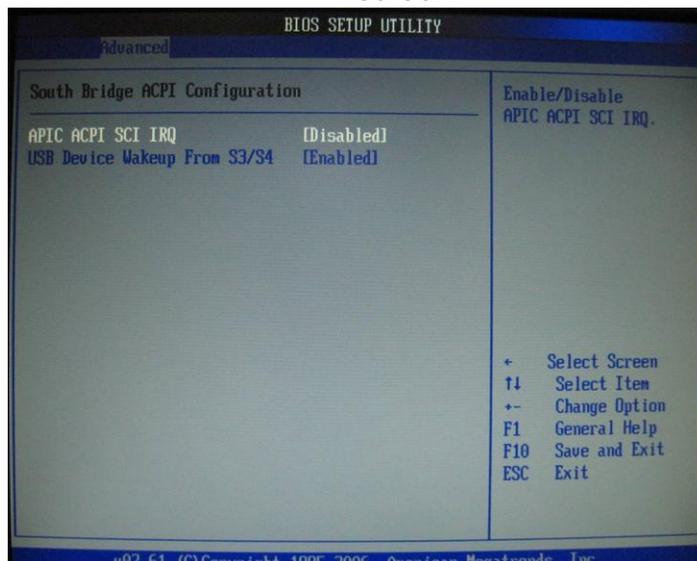

Figure 8-25 South Bridge ACPI Configuration Page
15. Scroll down to **ACPI AFIC Support** and press **Enter**. On the **South Bridge ACPI Configuration** Page, no changes are necessary. (Figure 8-25). Then press **Escape** to return to **Advanced Settings** screen.